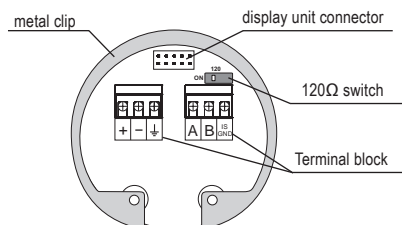

Fig. 34: Inside view of screw terminals of the level meter with Modbus GRLM-70_--_M
6. If the level meter with Modbus is involved as a terminal for RS-485, we recommend (to avoid reflections on the line) to connect 120Ω termination resistor. This is done by moving a small lever of the switch marked 120Ω to the ON position. On the level meters connected to the line RS-485 as an intermediate device, the termination resistors are not connected (switch remains off) in Fig 34.